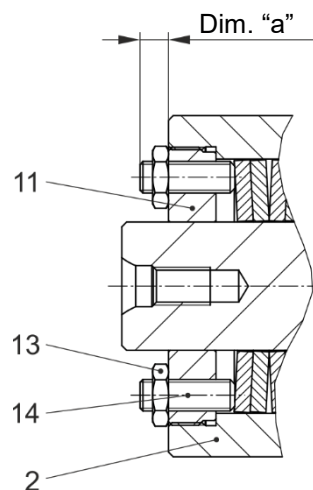

Fig. 6
3. Loosen the locking set screws (12) on Sizes 0 – 4 or the hexagon nuts (13) on the Sizes 5 + 6.
4. Set all overload elements (2) by turning the adjusting nut (11) or by turning the set screws (14) to the dimension "a" (Fig. 6) found in the Adjustment Diagram.
5. Tighten the set screws (12) again in the adjusting nuts (11) or counter the set screws (14) using hexagon nuts (13).